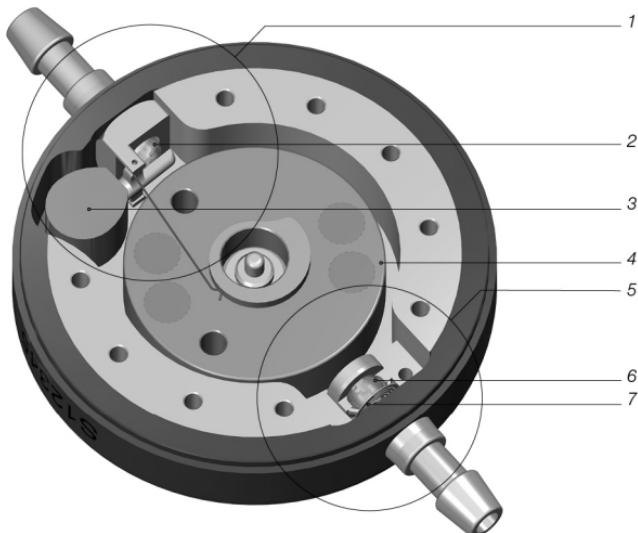

Fig. 1: Cross section of *M.blue*
M.blue is a valve made from titanium. It consists of an adjustable gravitational unit and a differential pressure unit (fig. 1). The adjustable gravitational unit (1) in the proximal part of the valve contains a tantalum weight (3), which holds a sapphire ball in the ball seat via a lever (2). Depending on the body position of the patient, the influence of the tantalum weight on the sapphire ball and thus the valve opening pressure changes. Via a rotor (4), the pretension of the torsion spring connected to the lever can be changed through the skin.